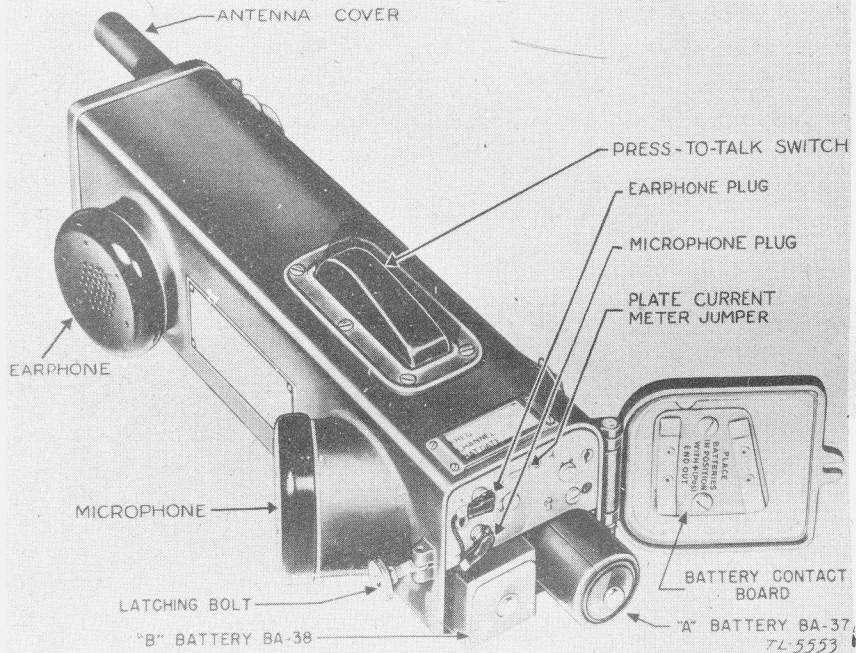

FIGURE 1.—Radio set SCR-536-(*)—showing battery compartment.
b. The set may be held in either hand when operating, although it is designed and balanced for left-hand operation. The microphone and earphone are attached to the case in such manner that the set resembles a hand telephone. An adjustable carrying strap is attached to the case. (See figs. 1 and 2.)
4. Source of power and power requirements.—Radio receiver and transmitter BC-611-(*) is battery powered. Space for both A and B batteries is provided in the housing. (See fig. 1.)
8. Controls.—*a. Send-receive.*—A press-to-talk switch, conveniently located under the finger tips when the radio set is held in normal operating position, is the only control required for operation of this equipment. (See fig. 1.)
d. A small card holder below the press-to-talk switch contains a plastic card on which the operating frequency and date of battery replacement are marked. This card is protected from wear by a transparent cover. To remove the card from its container the bottom cover must be opened. (See fig. 1.)
b. Installation of batteries BA-37 and BA-33.—Open the radio set bottom cover by turning the latching bolt knurled nut in a counterclockwise direction, until the nut begins to turn with difficulty. Then press the cover against the case and push the bolt away from the housing. Release the cover and it will open. (See fig. 1.)
(1) Battery BA-37 (filament or A battery) is cylindrical in shape and fits into the round compartment of the radio set housing. Insert the battery into the housing with its positive end out. The
(3) After the batteries are installed close the bottom cover of the radio set by pressing the cover against the housing with one hand, while the other hand moves the latching bolt into the cover slot and tightens the knurled nut by turning it clockwise. The cover then should be pressed against a solid object and the knurled nut tightened by hand until it turns with great difficulty. This will assure positive contact between batteries and battery contacts. •
a. Unscrew the antenna cap which covers the telescopic antenna. (See fig. 1.) To prevent losing it, this cap is attached to the housing by a small chain. Screw the cap on the threaded metal stud on top of the housing. This will prevent the cap from rattling against the housing when operating the set. See that the chain is *not* wrapped around the antenna rod and that there is no chance of it touching the rod.